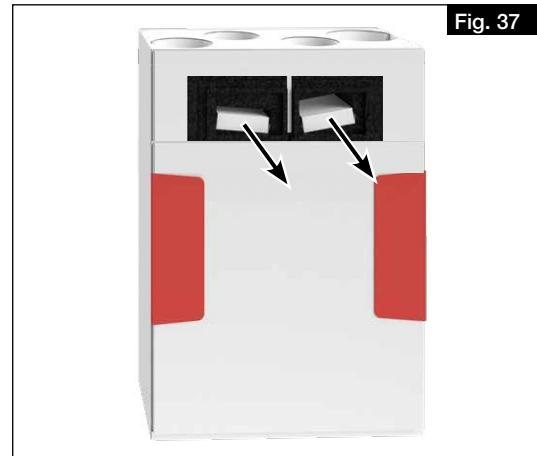

Fig. 37
2. Pull filter to the front and replace (see Fig. 37).